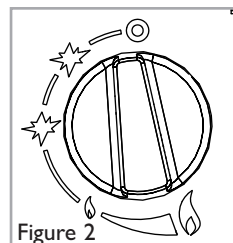

Figure 2
• **Corinthia models :** The control knob is located in the centre of the appliance and is accessed by swinging the glass panel upwards from the botto. The control knob is marked as shown in figure 2.